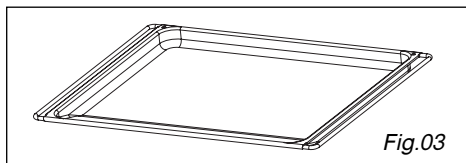

Fig.03
**Enamel dish (Fig.03):** It can be used for double-boiler procedures when filled with water to mid-height. It can also be used as a cooking dish.